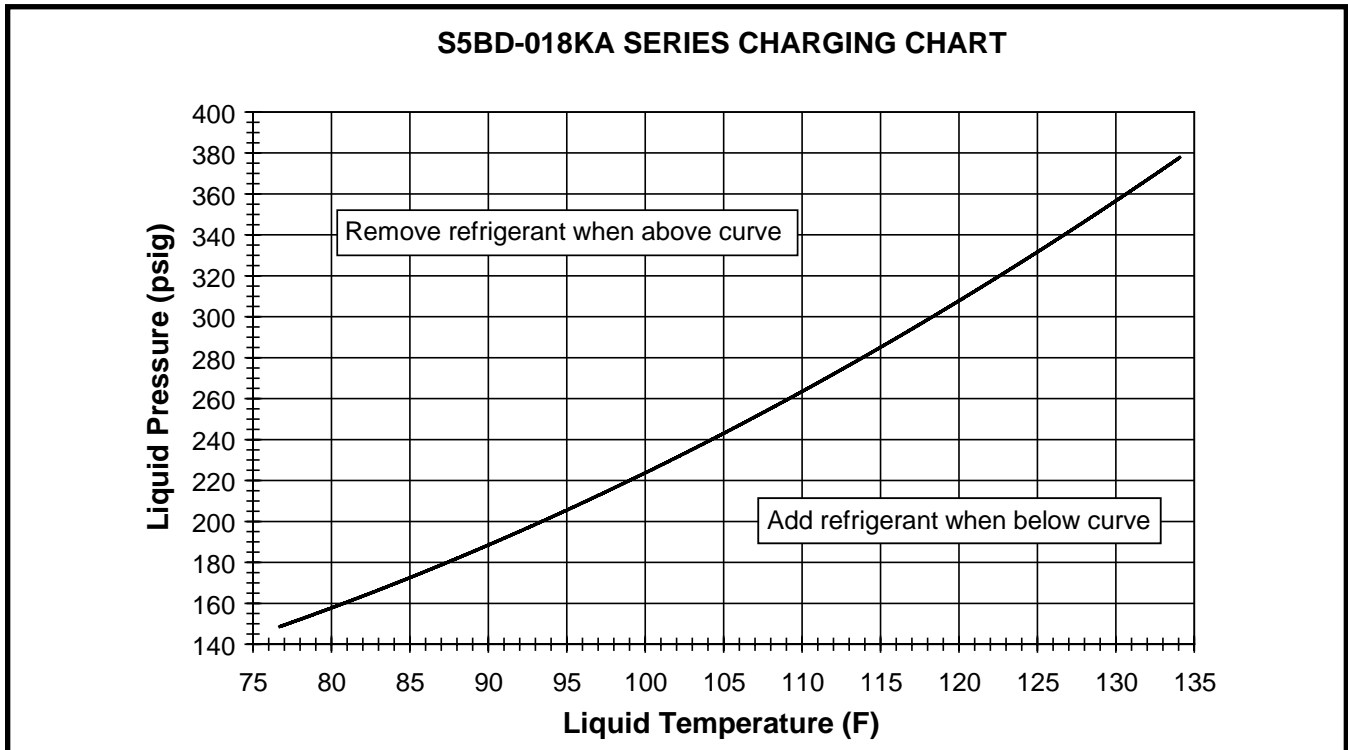

Figure 3. Charging Chart for 1.5 Ton Units
- Refrigerant charging charts are applicable only to matched assemblies of NORDYNE equipment and listed airflows for the indoor coil. Refer to Figures 3 - 9 (Pages 10 - 13) for correct system charging.